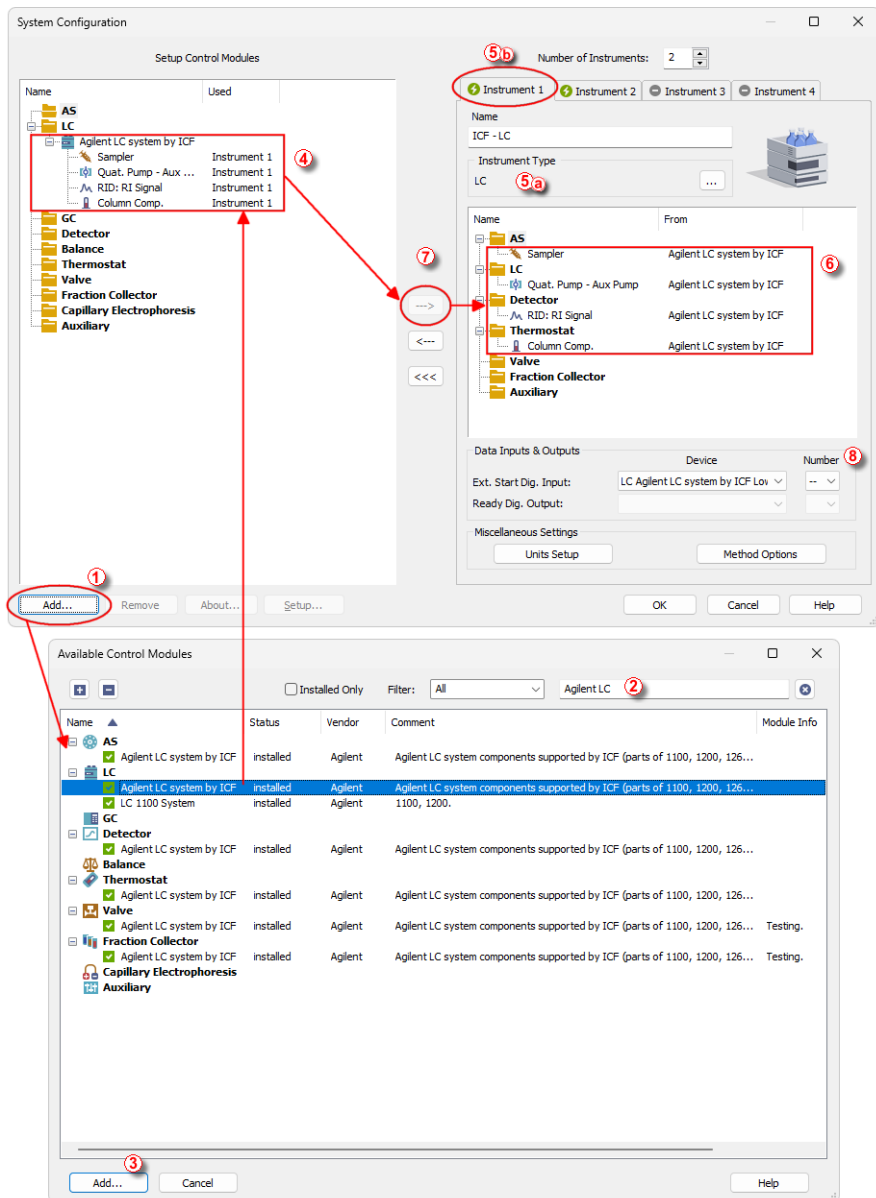

Fig. 7: System Configuration
- Press the **Add** button ① (See **Fig. 7** on pg. 9.) to invoke the **Available Control Modules** dialog.
- You can specify the searching filter ② to simplify the finding of the driver.
- Select the **Agilent ICF for LC** item and press the **Add** ③ button.